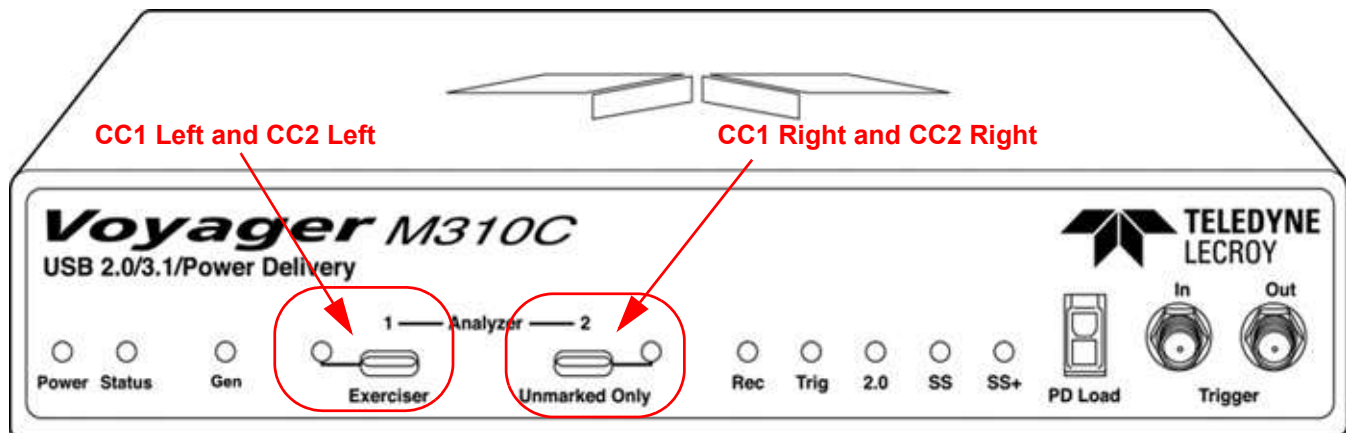

Figure 10.73: Voyager M310C: Front Panel View
10.14.4 Configuration Channel (CC) Power Tracker
The USB Type C cable supports two Configuration Channel (CC) pins: CC1 and CC2. The Voyager M310C/M310P/M4x has two Type C connections: one on the left of the front panel (Connector 1) and one to the right (Connector 2). See Figure 10.73.